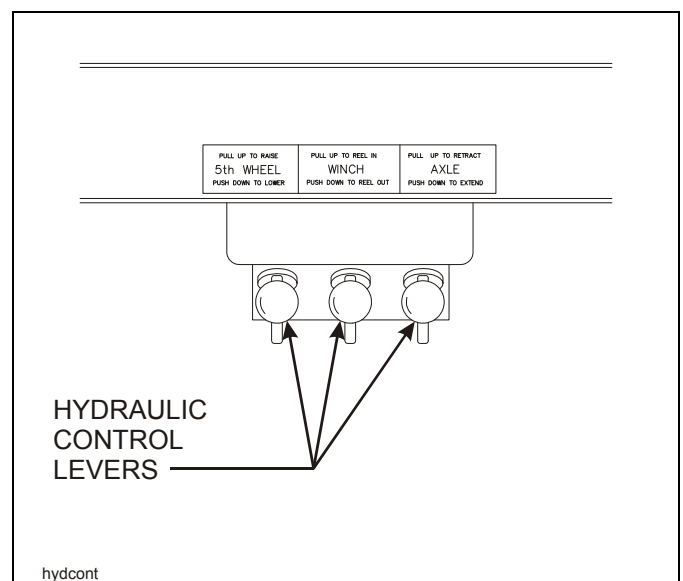

Figure 3-2: Hydraulic Control Levers
2. The king pin plate should be the same height as, or slightly lower than, the latch area of the fifth wheel plate of the tractor. If necessary, connect the tractor hydraulic lines or start the trailer hydraulic power engine. Use the **TRAILER TILT** lever to raise or lower the kingpin plate sufficiently to allow proper coupling (See **Figure 3-2.**) Drain all air and moisture from the tractor air brake system in accordance with the tractor manufacturer's instructions.
1. While hydraulic power is operating, raise the front end of the semitrailer with the **TRAILER TILT** lever until weight is off the landing gear (See Figure 3-2.) Raise landing gear. If pin drop leg, secure each leg with a retaining pin in fully retracted position before transporting.
The **TRAILER TILT** lever is located on the driver's side of the semitrailer under the outer frame beam (See **Figure 3-2.**) It has three positions:
The **AXLE CONTROL** lever is the control on the rear with three positions (See **Figure 3-2.**):